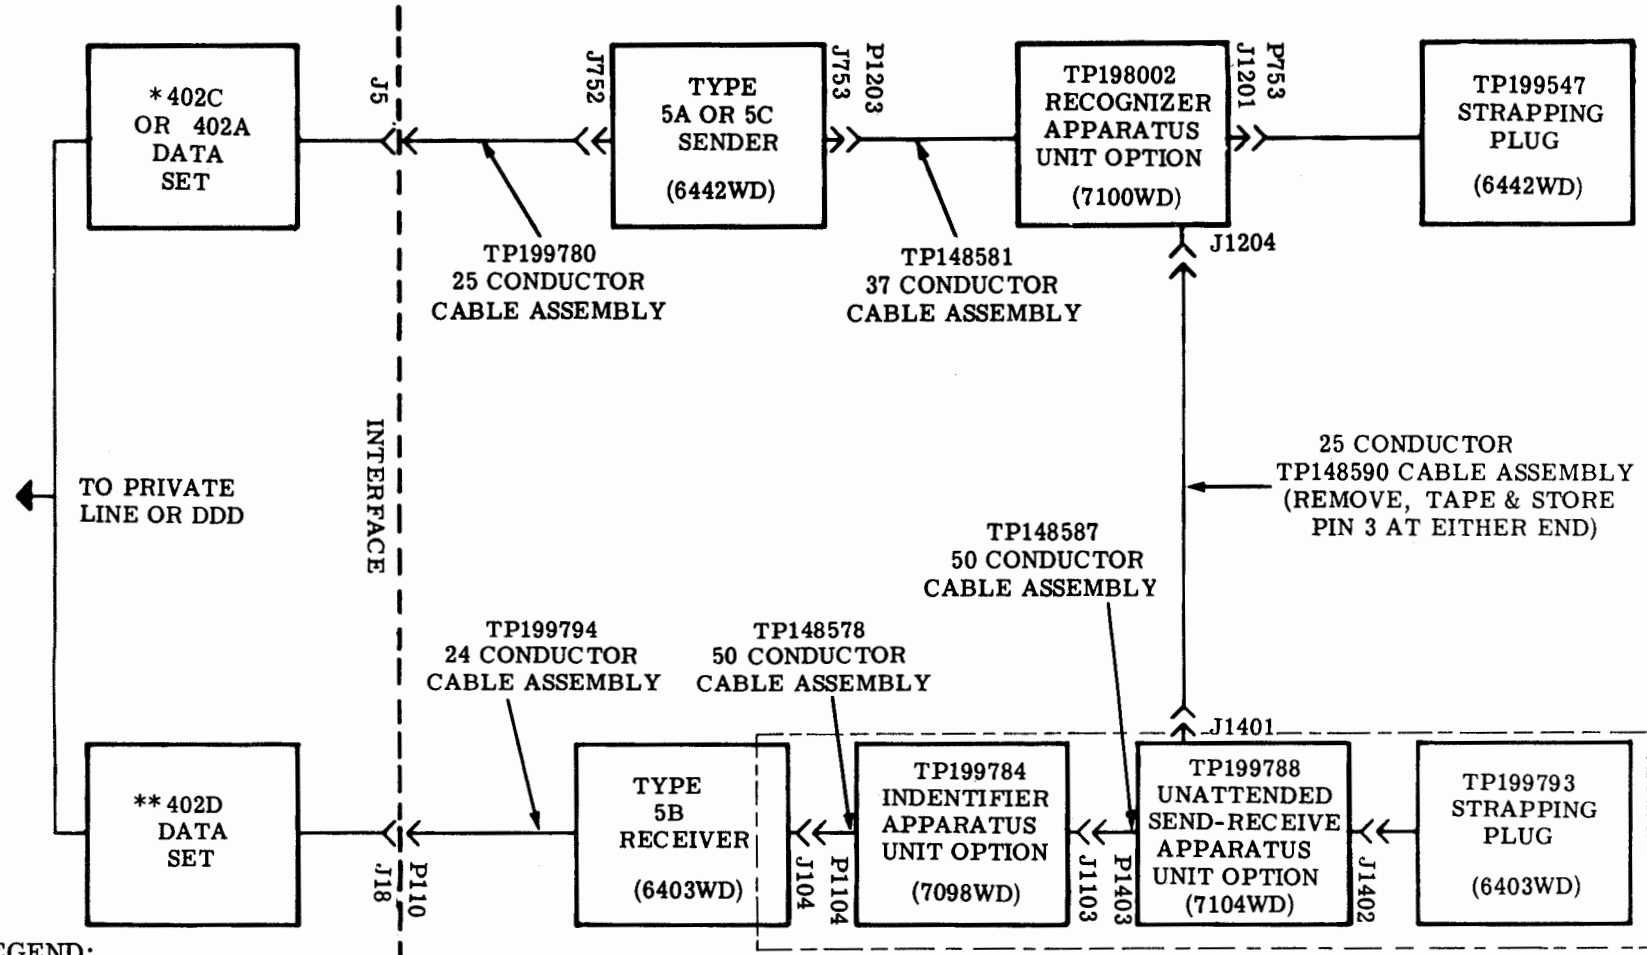

Figure 3 - Send-Receive Terminal Interconnecting Diagram
3.01 The parts section for the Tape Receiver illustrates the arrangement of the parts referred to by TP numbers in the following instructions. Figure 3 illustrates schematically the interconnection of the identifier with other equipment.
3.04 Locate the 50-pin strapping plug TP199793 and place it in the last installed unit as viewed from left to right of Figure 3 (J104 of Receiver, J1103 of identifier or J1402 of unattended send-receive unit).